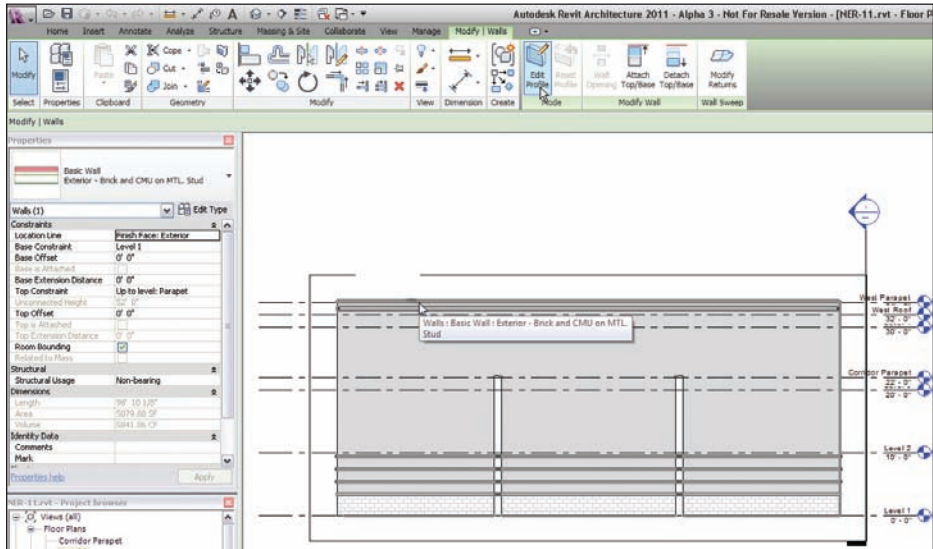

FIGURE 4.36 Select the wall beyond, and click the Edit Profile button on the Modify | Walls tab.
2. Select the wall beyond, as shown in Figure 4.36.
3. On the Modify | Walls tab, click the Edit Profile button, as shown in Figure 4.36.